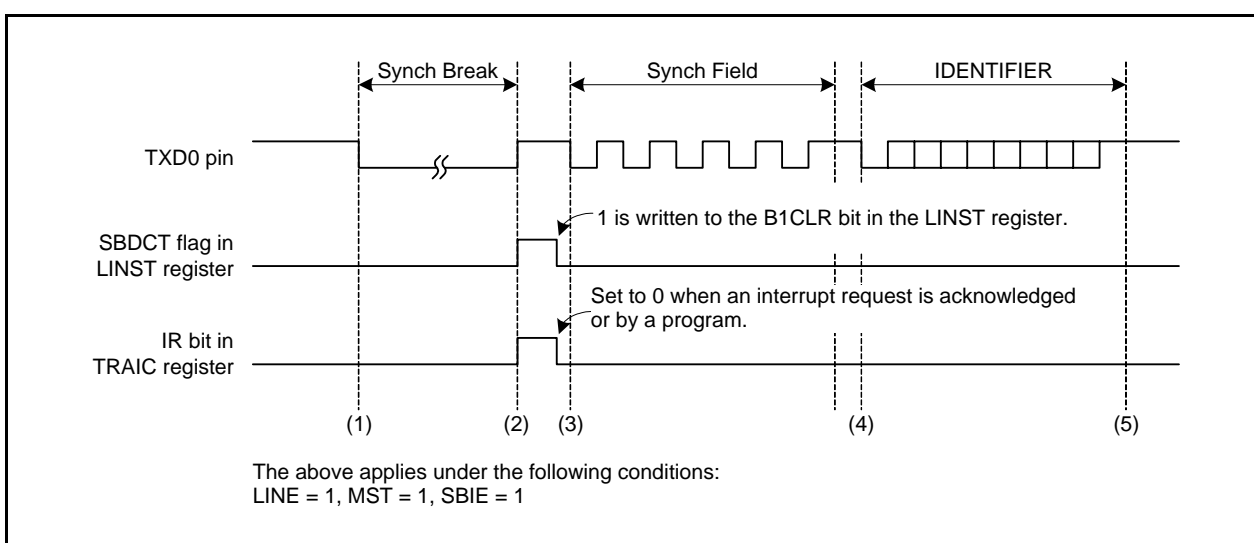
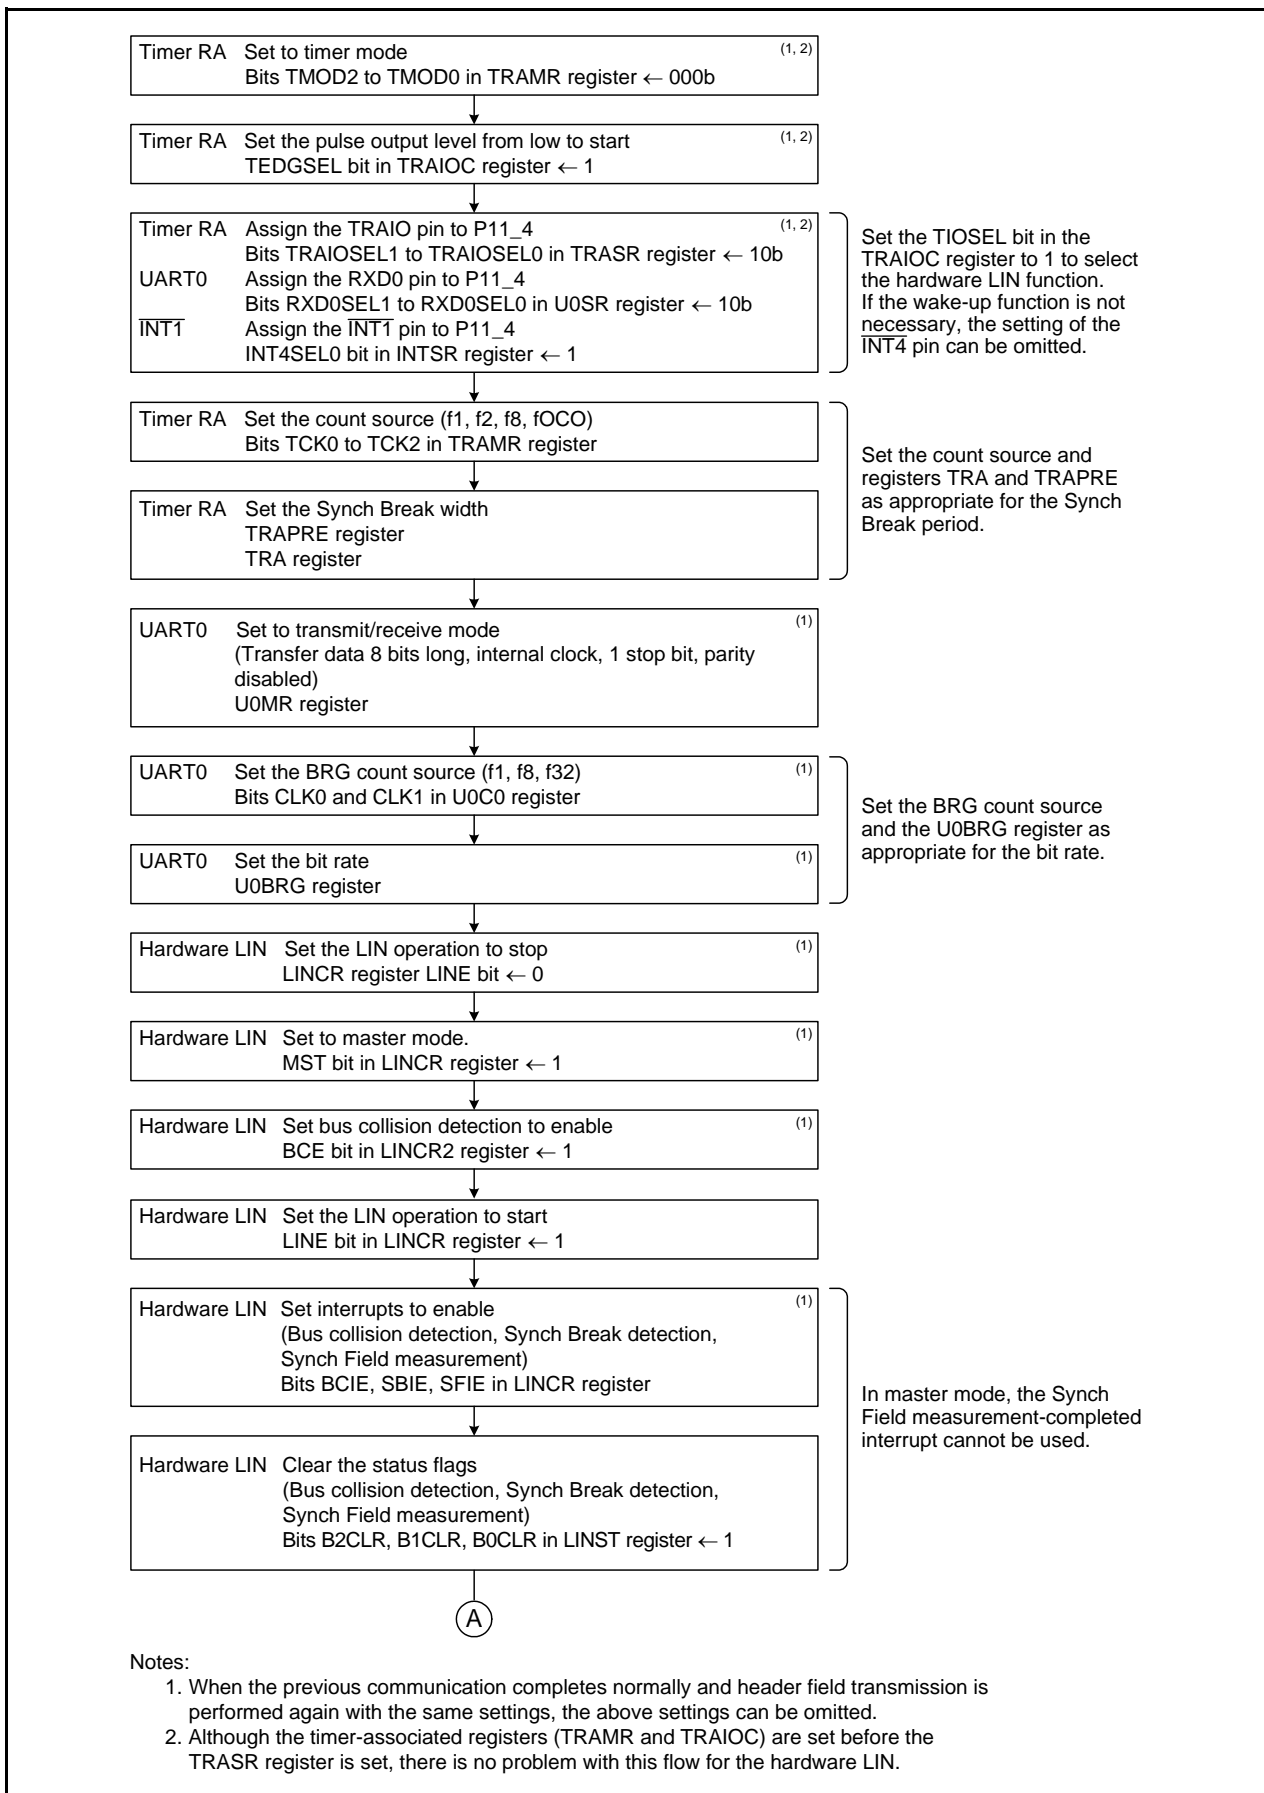
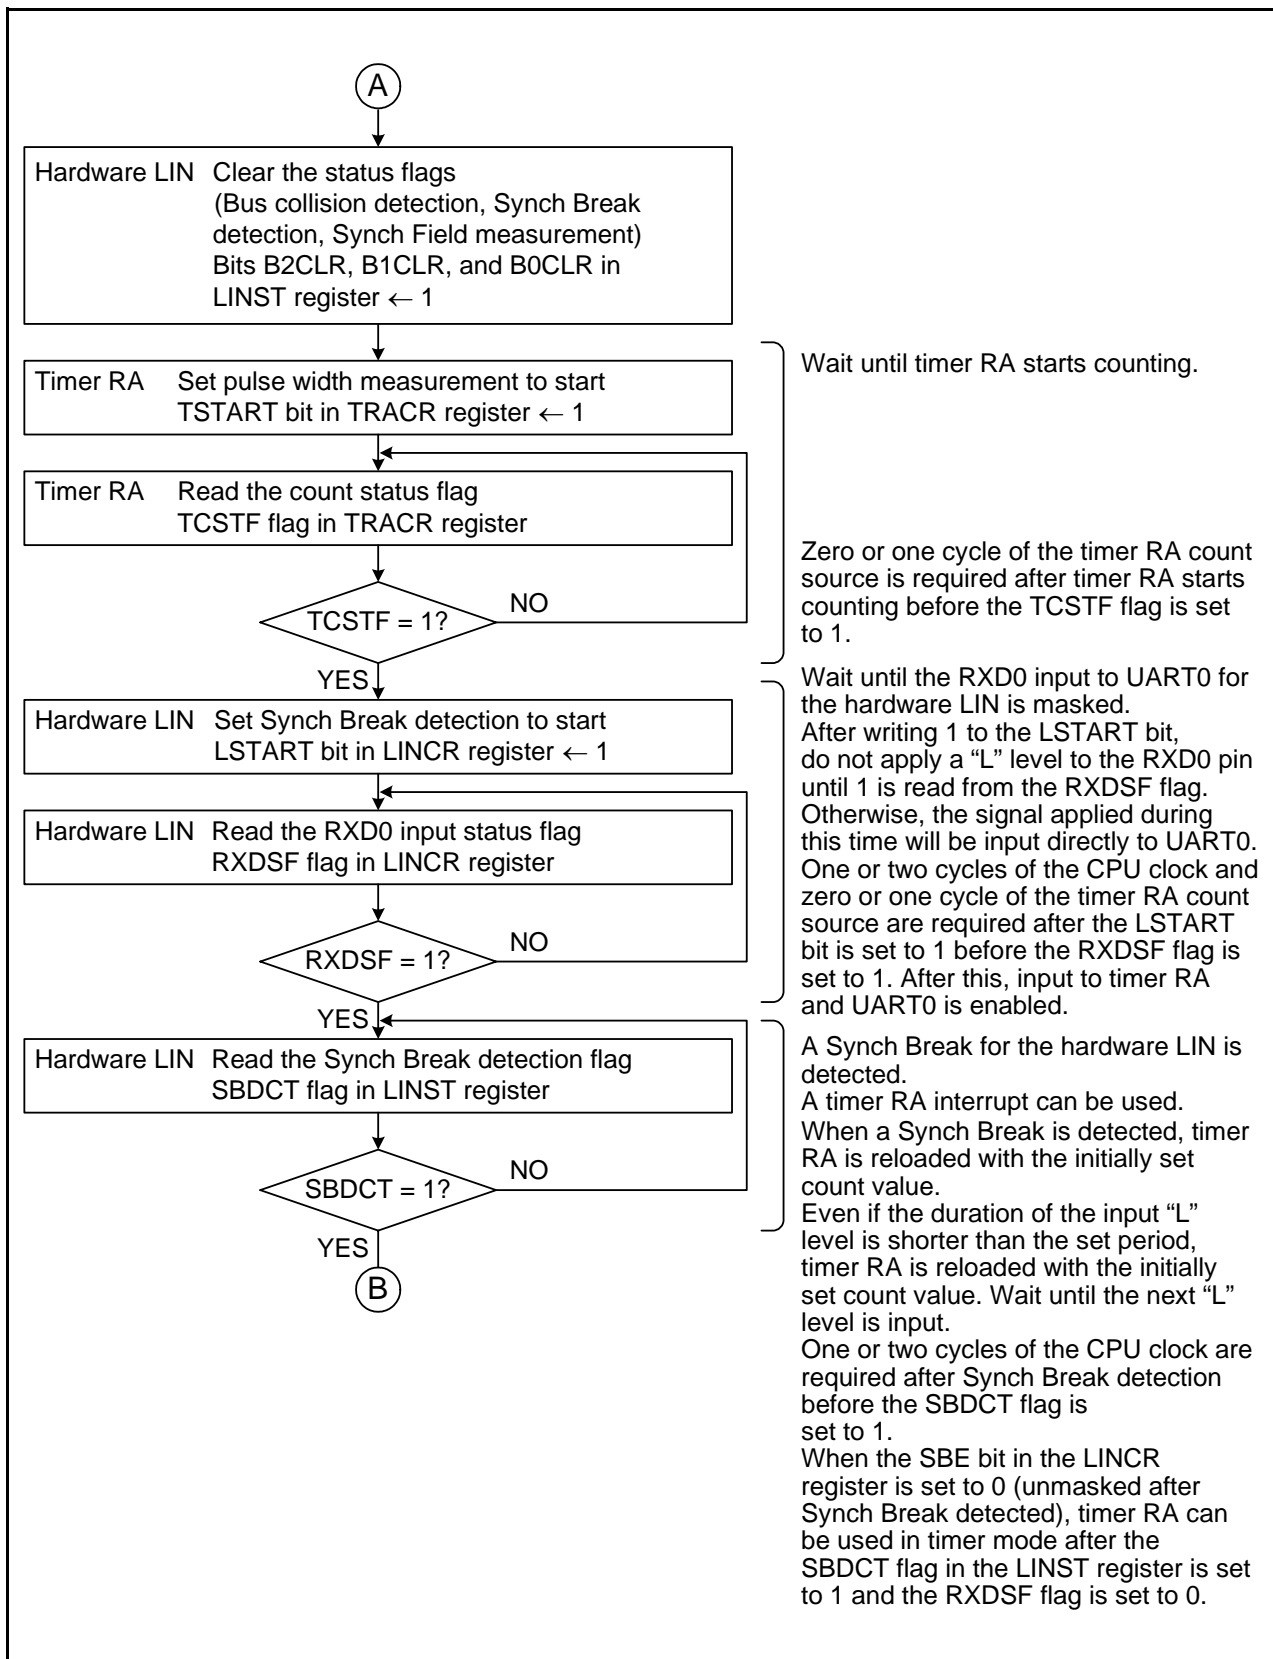

Figure 29.2 Operating Example during Header Field Transmission
Figure 29.3 Header Field Transmission Flowchart Example (1)
Figure 29.7 Header Field Reception Flowchart Example (2)
3. Inputs to timer RA and UART0 are disabled immediately after the LINE bit is set to 1 (LIN operation starts). (Refer to **Figure 29.3 Header Field Transmission Flowchart Example (1)** and **Figure 29.7 Header Field Reception Flowchart Example (2)**.)
Figure 29.2 shows an Operating Example during Header Field Transmission in master mode. Figures 29.3 and 29.4 show Examples of Header Field Transmission Flowchart.